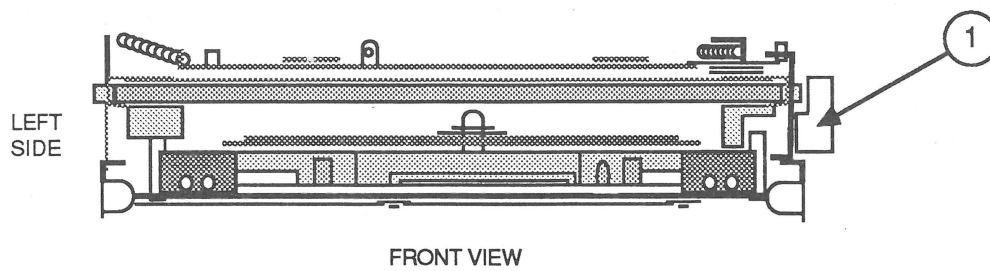

FIGURE 1
2. Place the disk drive mechanism on a flat surface, with the Printed Circuit Board facing down and the diskette opening facing you (see Figure 1).
4. Press the eject lever at the right side of the disk drive (see Figure 1, #1).